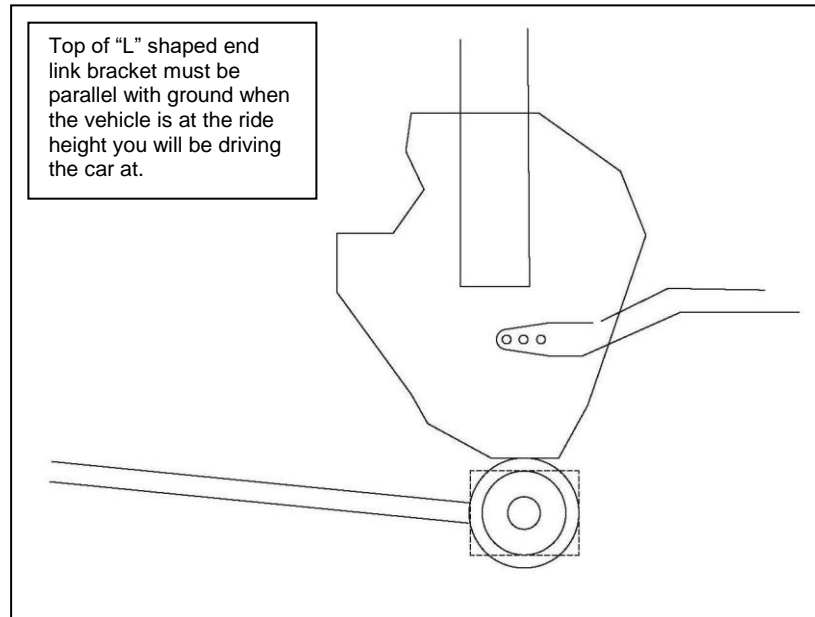

Figure 1
1. Park the vehicle on a smooth, level asphalt or concrete surface. Block front wheels. Do not jack up the vehicle yet. Look at the diagram page (fig. 1) the angle bracket you attach in step 4 will need to be parallel to the ground when the car is at its regular ride height. We recommend that you scribe a line onto the radius arm parallel to the ground at this time. This will help you align the "L" shaped end link bracket later when the vehicle is on jackstands. If you have stock rubber bushings please do the following to help you in step 4a. Measure from the center of the wheel to directly above it in the fender opening. Note this measurement.
4. Remove radius arm bolt, located directly under hub. The bolt attaches the radius arm to the spindle assembly. It is a very tight bolt and we have found it makes removal easier if one uses a wrench or ratchet and socket on both sides. The short side of the "L" shaped end link bracket attaches to the radius arm using the factory bolt you just removed. (Fig. 1 and 2). The top of the angle bracket needs to be aligned so that it is parallel to the ground when compressed. (Fig. 1).